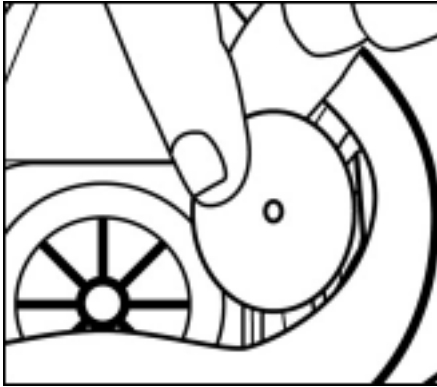

Fig. 9
1. Remove inhalation valves from facepiece and store them so they remain flat. (Fig. 9)